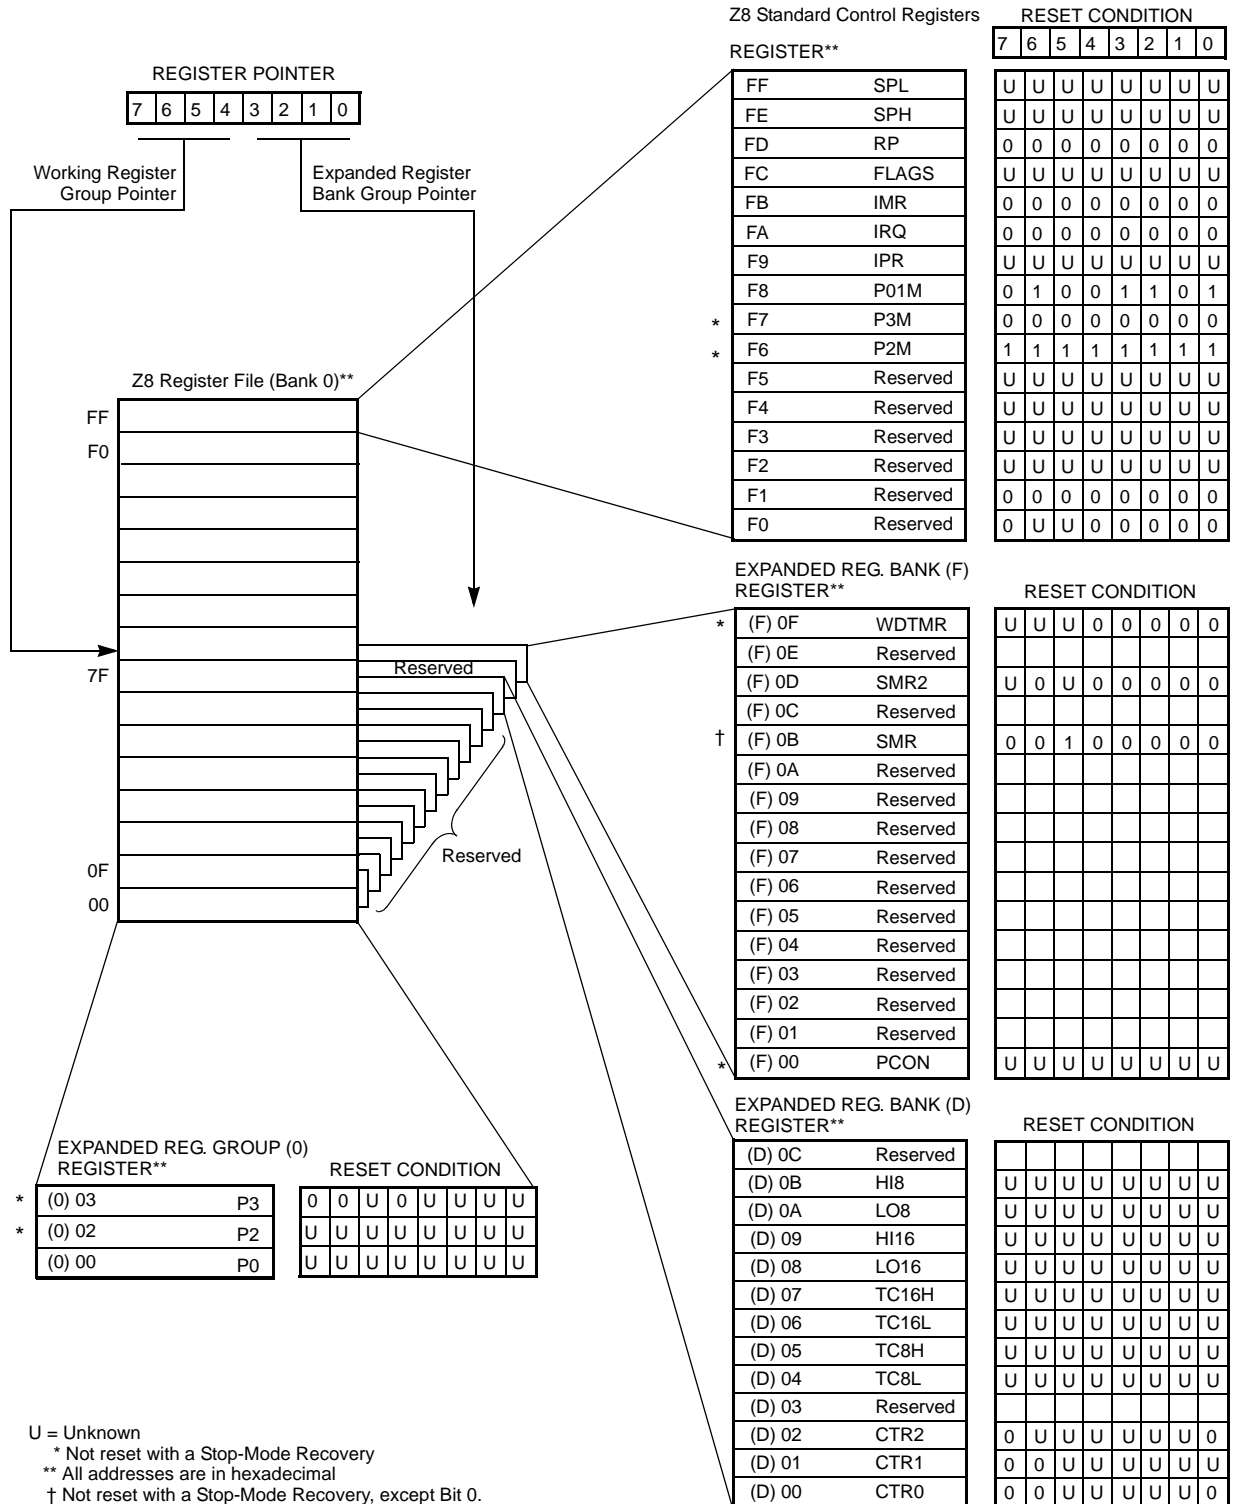
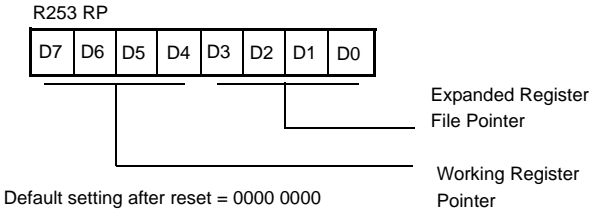

Figure 11. Expanded Register File Architecture
Figure 12. Register Pointer Register
► **Note:** An expanded register bank is also referred to as an expanded register group (see Figure 11).
The upper nibble of the register pointer (Figure 12 on page 22) selects which working register group is accessed of 16 bytes in the register file, out of the possible 256. The lower nibble selects the expanded register file bank and, in the case of the Z86L88 device, banks 0, F, and D are implemented. A 0h in the lower nibble allows the normal register file (bank 0) to be addressed, but any other value from 1h to Fh exchanges the lower 16 registers to an expanded register bank. For example, for the Z86L88 (see Figure 11):